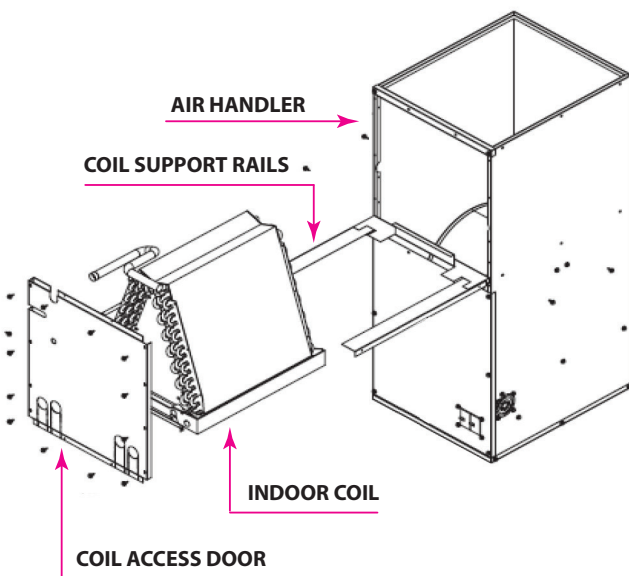

Figure 7: Indoor Coil Assembly When Converting to Downflow Operation
4. Remove 6 screws (3 on each side of air handler), securing indoor coil support rails. Refer to Figure 7.
6. Re-install the indoor coil support rails in the holes provided in the air handler casing as shown in Figure 7. Use the six (6) screws that were removed in step 4 to secure the indoor coil support rails to the air handler casing.
7. Re-install the cooling coil in the upright position as shown in Figure 7.
8. Remove the new indoor coil access panel from the conversion kit and install over the indoor coil section as shown in Figure 7.